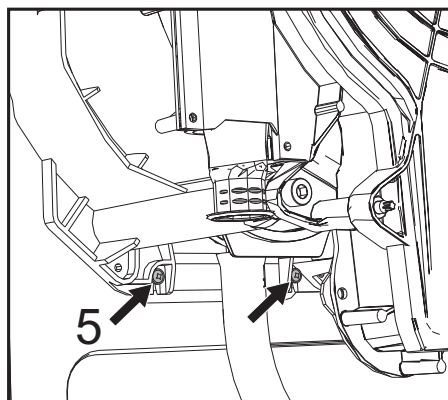

fig. 63
- Loosen the 2 **bottom** screws "5" securing the exchanger to the frame (fig. 63)